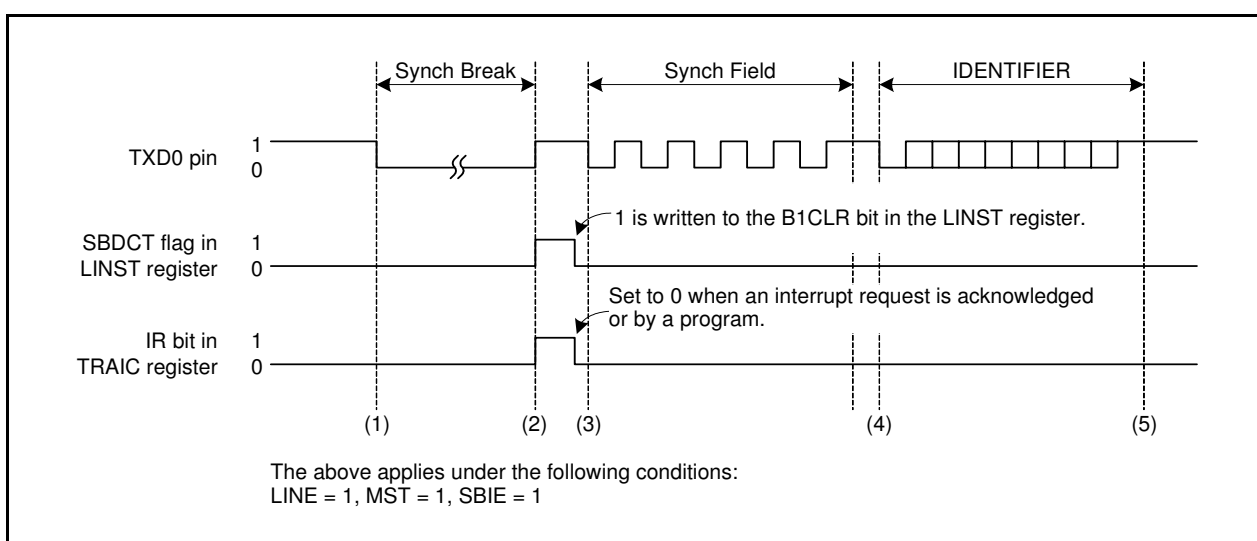
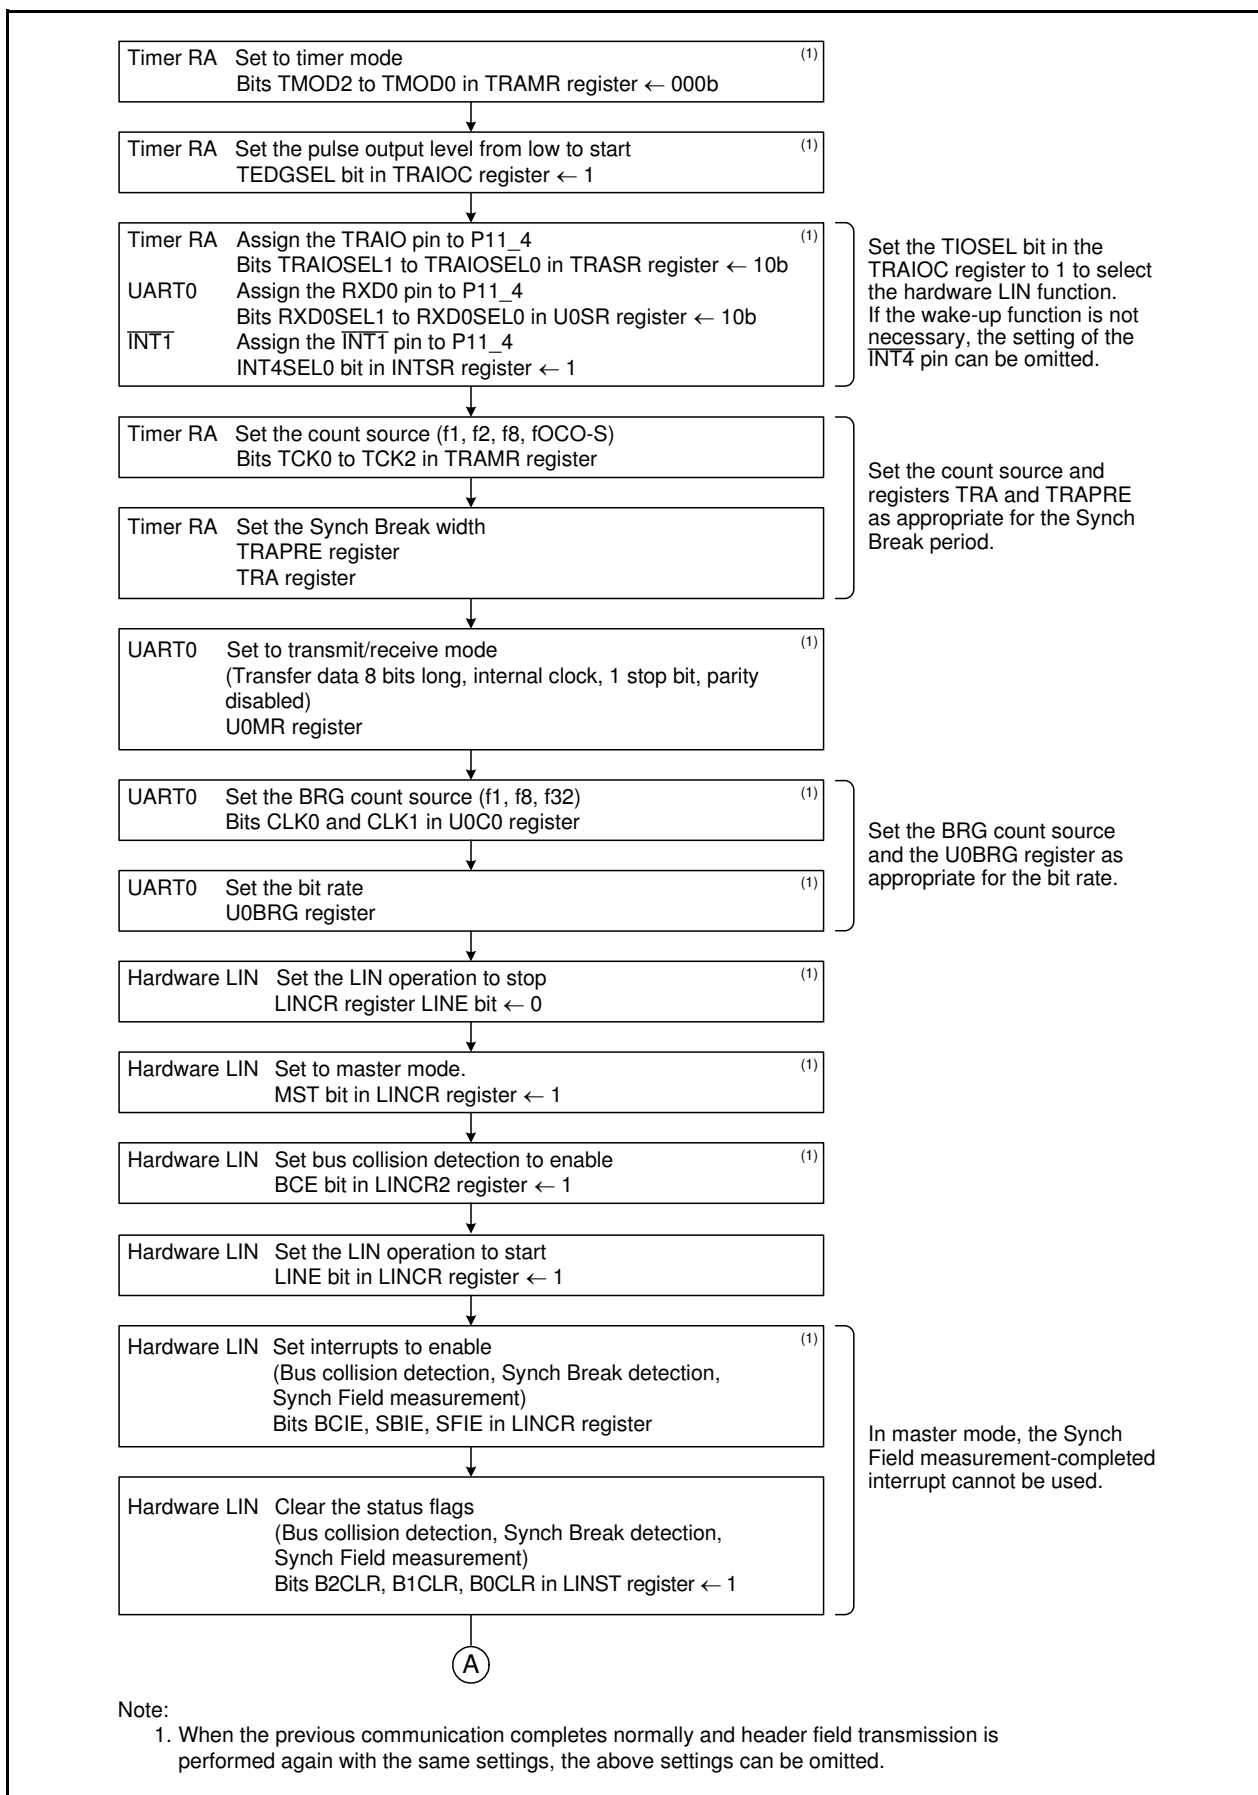
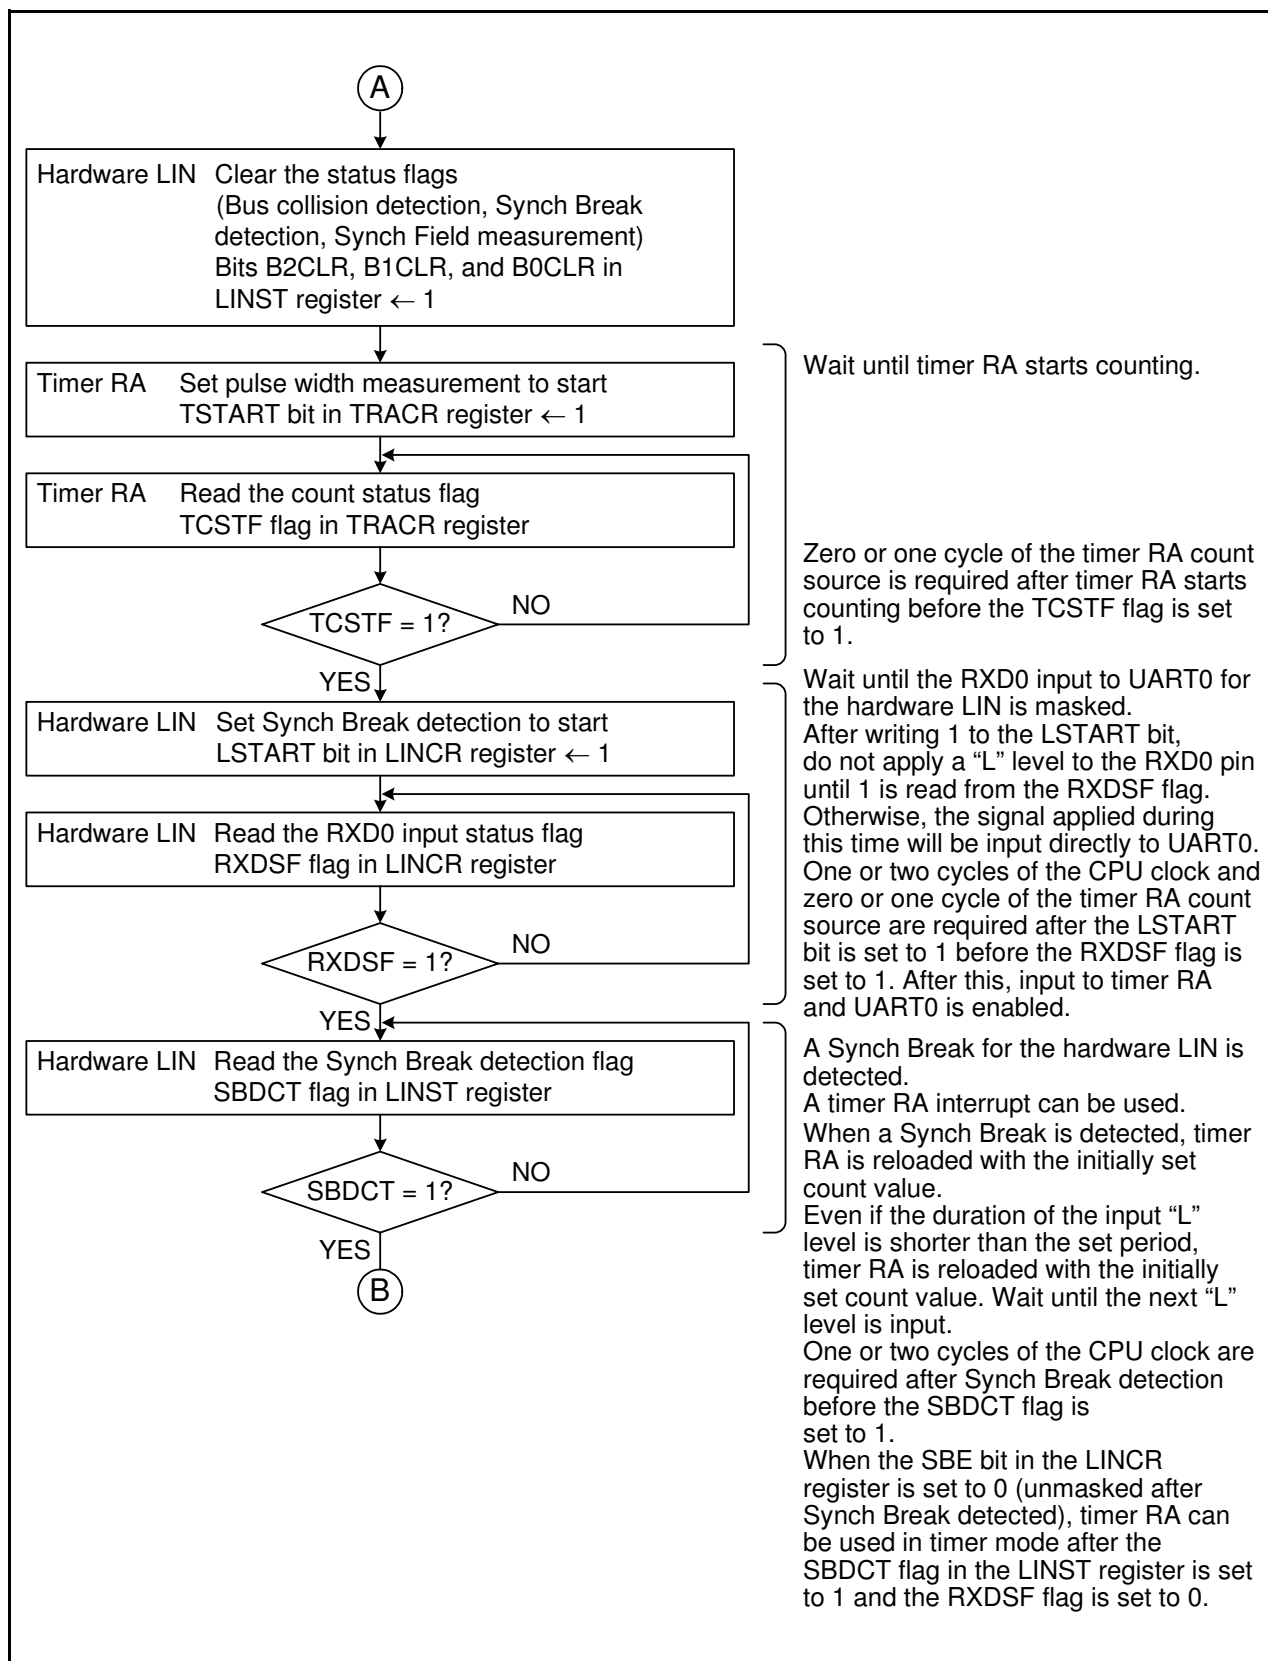

Figure 28.2 Operating Example during Header Field Transmission
Figure 28.3 Header Field Transmission Flowchart Example (1)
Figure 28.7 Header Field Reception Flowchart Example (2)
(Refer to **Figure 28.3 Header Field Transmission Flowchart Example (1)** and **Figure 28.7 Header Field Reception Flowchart Example (2)**.)
Figure 28.2 shows an Operating Example during Header Field Transmission in master mode. Figures 28.3 and 28.4 show Examples of Header Field Transmission Flowchart.